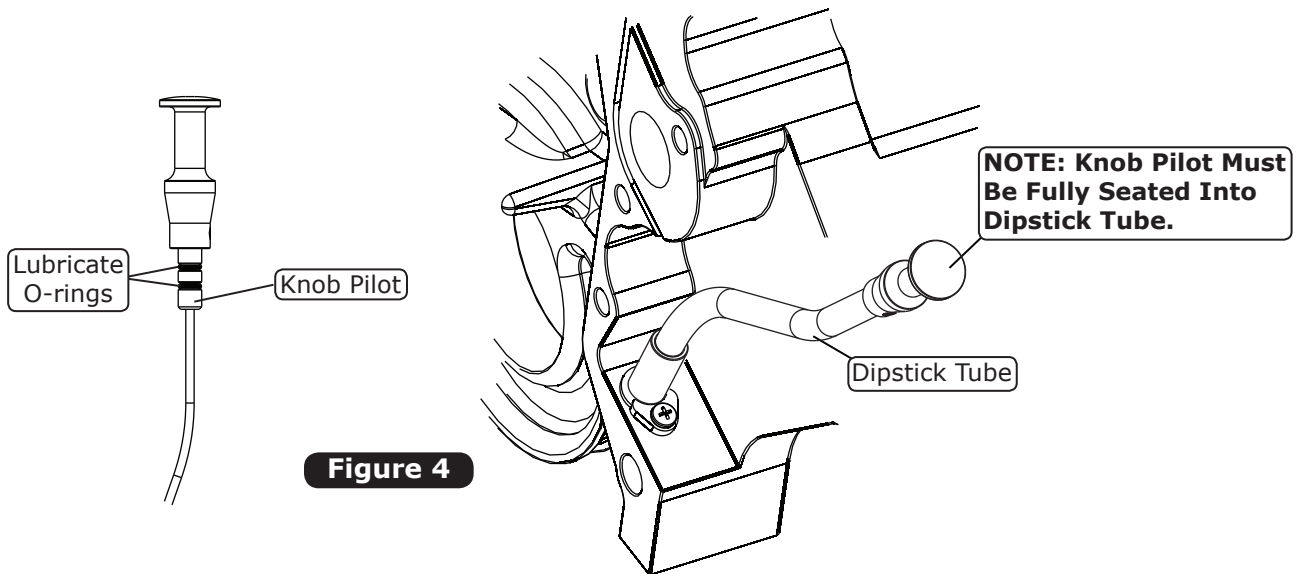

Figure 4
1. To measure and adjust the dipstick cable length, lubricate the knob pilot O-rings with engine oil, and install the cable assembly into the dipstick tube as shown in Figure 4, below. **NOTE: The knob pilot must be fully seated into the dipstick tube.**